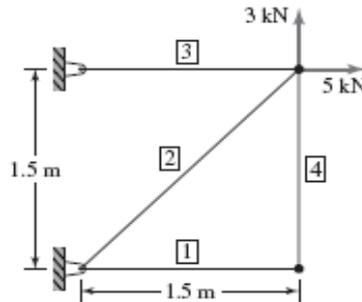

Fig. 3
6. The plane truss shown in **Fig. 3** is composed of members having a square $15 \text{ mm} \times 15 \text{ mm}$ cross section and modulus of elasticity $E = 69 \text{ GPa}$. Determine the nodal displacements and the stresses in each element. 14M